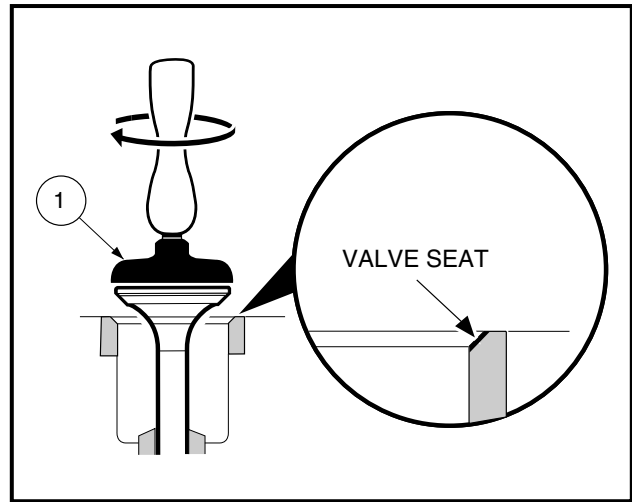

Figure 2-18 Rotate Valve against Valve Seat
4. Rotate the valve against the seat with a lapping tool (1) (**Figure 2-18, Page 2-11**).